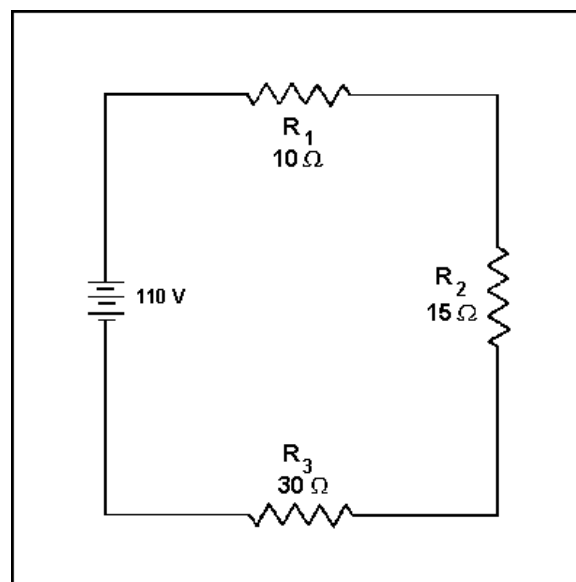

Figure 3-14.—Solving for total resistance in a series circuit.
**Example:** In figure 3-14 a series circuit consisting of three resistors: one of 10 ohms, one of 15 ohms, and one of 30 ohms, is shown. A voltage source provides 110 volts. What is the total resistance?